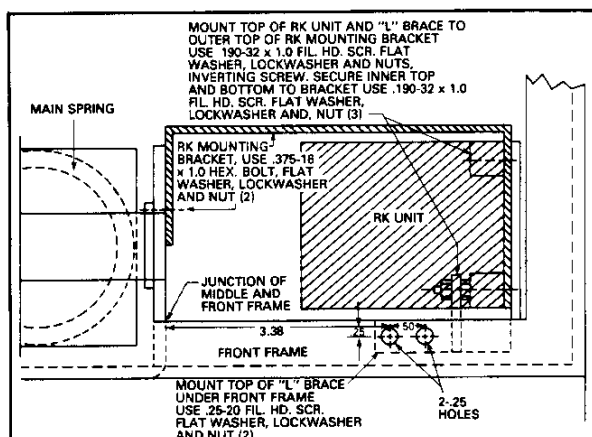

Fig. 6 Right Front Top View
front frame and .25 inches in to locate the first hole (See Fig. 6), measure another .50 inches over and .25 inches in to locate the second hole. Drill two (2) .25 holes.
- Invert and place a .190-32 x 1.0 fil. hd. scr. into the outer top hole of the RK bracket and unit, place a nut on the screw and secure. Place the "L" bracket on the screw and secure with washer, lockwasher and nut. Securing the "L" bracket at this time can be made after Step 7. See Figs. 6 and 7.
- Secure the top of the "L" brace to the top front frame using two (2) .25-20 x .75 fil. head screws, washer, lockwasher and nut. See Figs. 6 and 7.